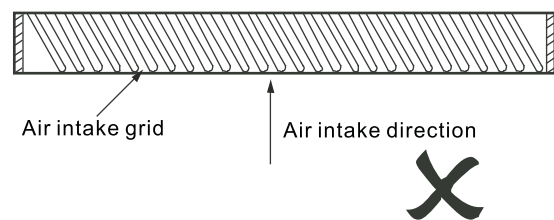

Figure 3.10
2) There shall not any angle between the air grid angle and the air intake direction. Otherwise, it may increase the noise. Figure 3.10 is the incorrect making method of the air intake grid.